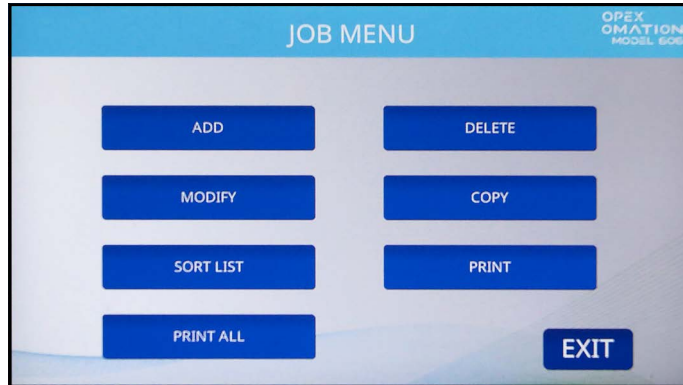
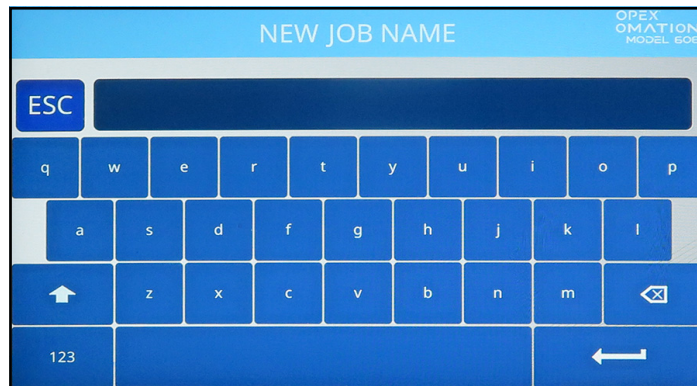
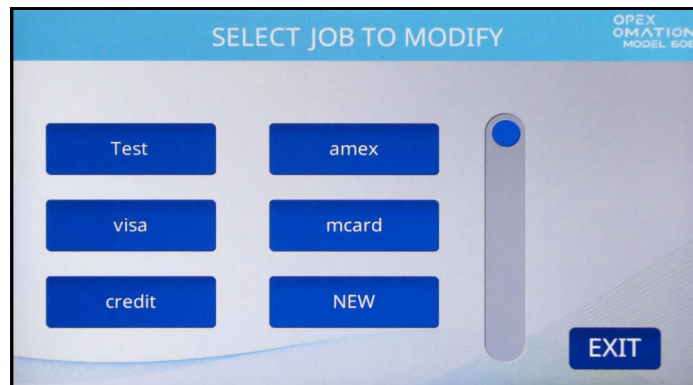
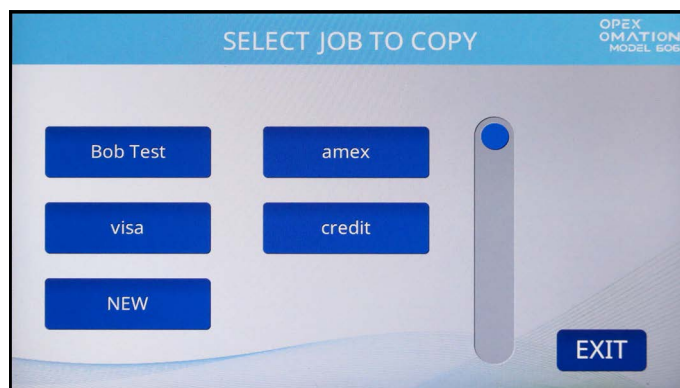

Figure 6-2: Job menu screen
Figure 6-3: New Job Name screen
Figure 6-7: Select Job to Modify screen
Figure 6-10: Select Job To Copy screen
A Supervisor has the ability to create and maintain a Job list. A maximum of 100 Jobs are supported. Pressing **JOB MENU** will display the Job Menu screen (Figure 6-2), and allow the supervisor to perform the following functions:
1. On the Job Menu screen (Figure 6-2), press **ADD**. The **NEW JOB NAME** screen appears as shown in Figure 6-3.
1. On the Job Menu screen (Figure 6-2), press **DELETE**. The **SELECT JOB TO DELETE** screen appears as shown in Figure 6-6.
1. On the Job Menu screen (Figure 6-2), press **MODIFY**. The **SELECT JOB TO MODIFY** screen appears (Figure 6-7).
1. On the Job Menu screen (Figure 6-2), press **COPY**. The **SELECT JOB TO COPY** screen appears (Figure 6-10).
1. On the Job Menu screen (Figure 6-2), press **SORT LIST**.